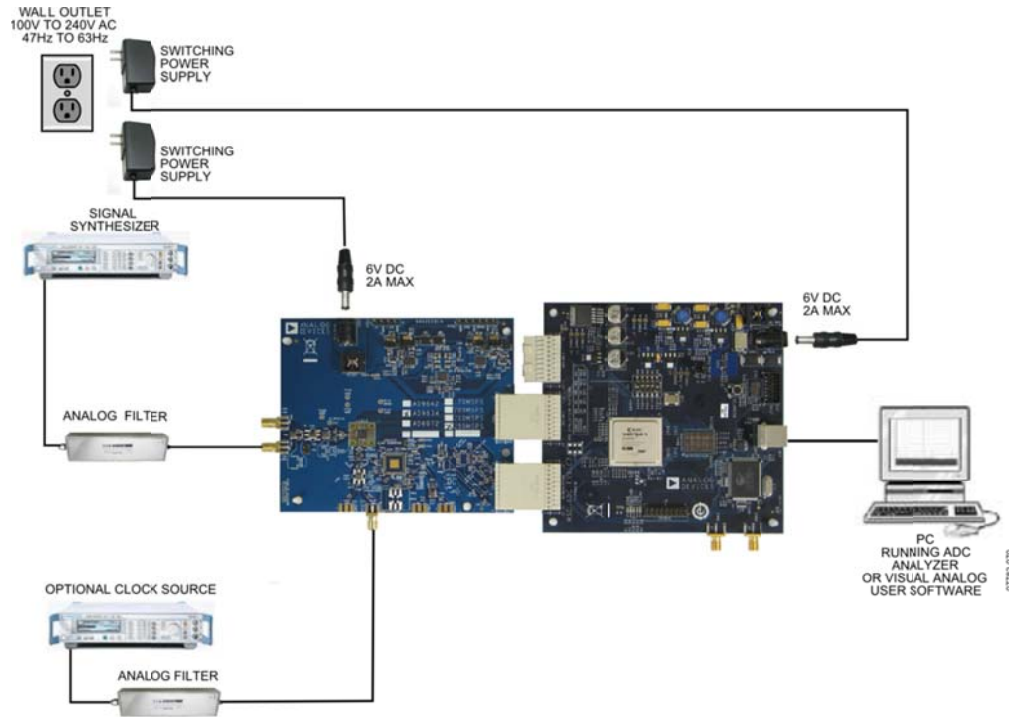

Figure 1: AD9634 Evaluation Board with HSC-ADC_EVALCZ Data Capture Board
1. Connect the AD9634 evaluation board and the HSC-ADC-EVALCZ board together as shown in Figure 1.
9. Next open the SPI Controller software. If prompted for a configuration file, select the configuration file titled AD9634_12Bit_205MSspiR03.cfg. If not, check the title bar of the window to see which configuration is loaded. If necessary, choose "Cfg Open" from the "File" menu and select one of the configuration files named above. Note that the CHIP ID(1) field may be filled whether the correct SPI Controller configuration file is loaded or not.
- Set the DCO Clk Delay Enable checkbox in the FLEXOUTPUT DELAY(17) panel on the ADCBase0 tab as shown below. In addition, set the DCO Clk Delay register to the '600ps additional delay on DCO pin'. If using parts branded with "XCPZ", also set the O/P Port DCO Clk Invert checkbox in the OUTPUT PHASE (16) panel. Otherwise, do NOT set the O/P Port DCO Clk Invert checkbox. These settings align the output timing with the input timing on the capture FPGA.